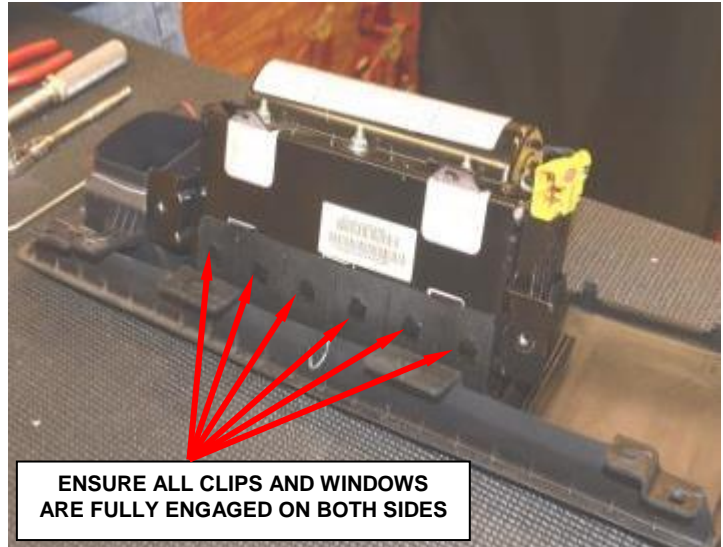

Figure 29 – Airbag Cover and Airbag Module
- q. Install the airbag cover to the airbag module ensuring all clips are fully engaged in the windows on both sides (Figure 29).